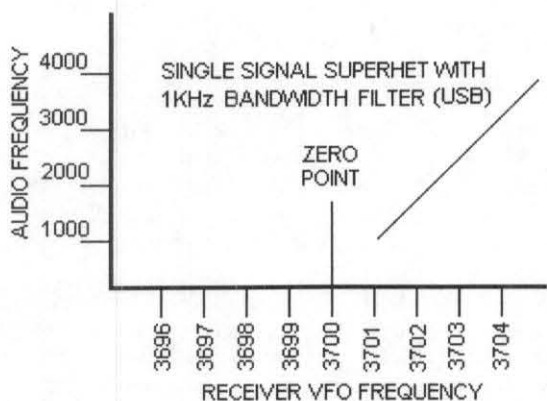

Figure 7. Superhet receiver response with a bandpass filter.
superhet receiver is that the superhet is able to cut off one side of the receiver's response to signals. That is, either the response above the zero point (upper sideband) or response to signals below the zero point (lower sideband) will be cut off. The cutting off is done by filtering in the intermediate frequency (IF) stage, and the result, using our "V" graph, is shown in Figure 7.
Figure 7, like most of the illustrations we have looked at, oversimplifies some factors. For one thing, sophisticated readers will object that there is no representation here of the slope or roll-off of filter responses. For our purposes, though, these considerations needn't be included, as the results are entirely valid using the simple models. This illustration is a useful model of the response of a "single signal" receiver with a 4 kHz bandwidth, set to receive the upper sideband.